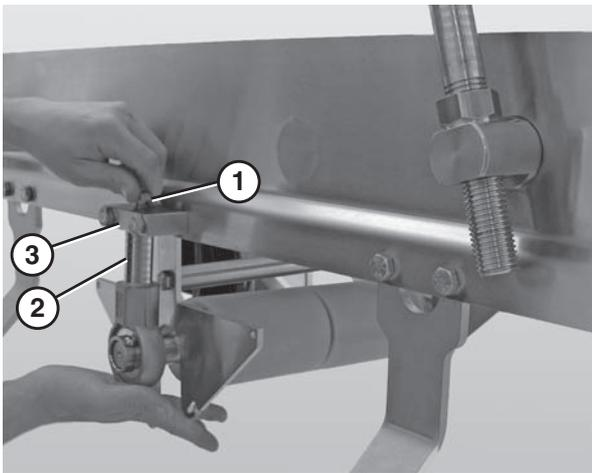

Figure 64
12. Remove the bolt (**Figure 64, item 1**) that connects the drive shaft assembly (**Figure 64, item 2**) to the block shaft mount (**Figure 64, item 3**).